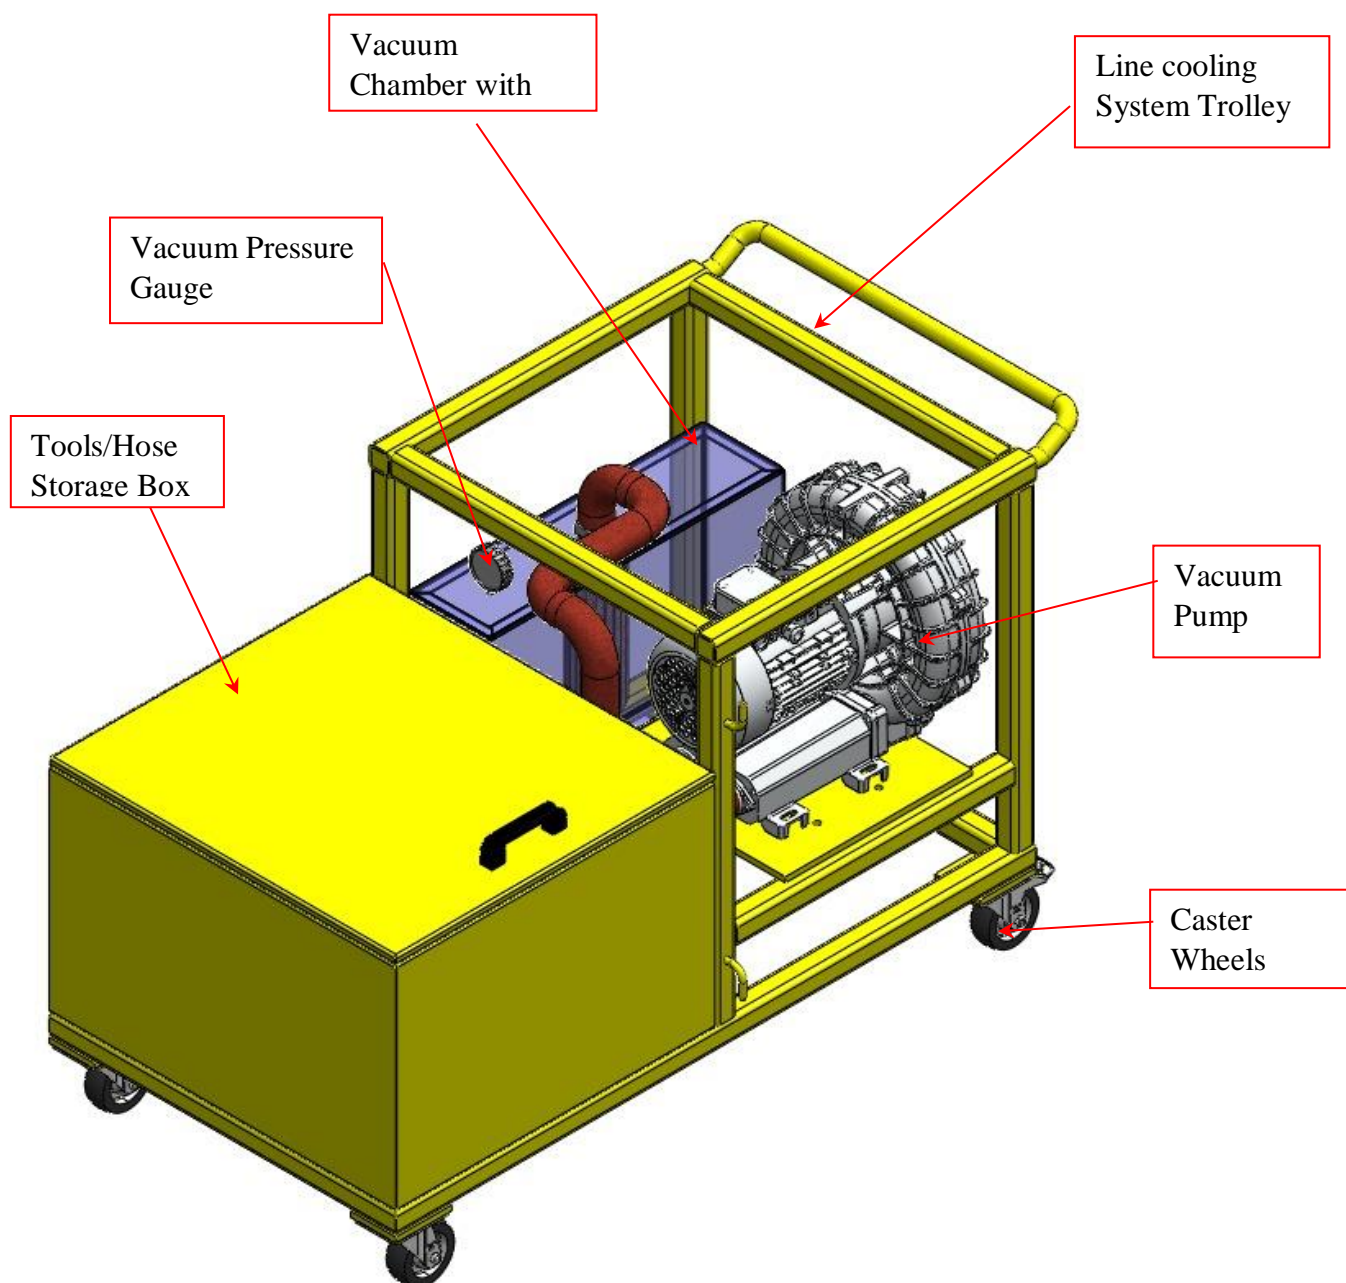

Fig.1: Overall view of construction
- 4. Construction:** The unit designed as per the diagram at Fig.1. The diagram is for reference only to give an idea of the required structure for Line Cooling System refer the General Arrangement Drawing No: **LIAPL/LCS/MDWG/001-REV0/191124** for more details
- The Pump placed on a platform with a suitable base as shown in Fig.1 and should have MS cover on the top.
- Handles provided for moving the unit as per Fig.1.